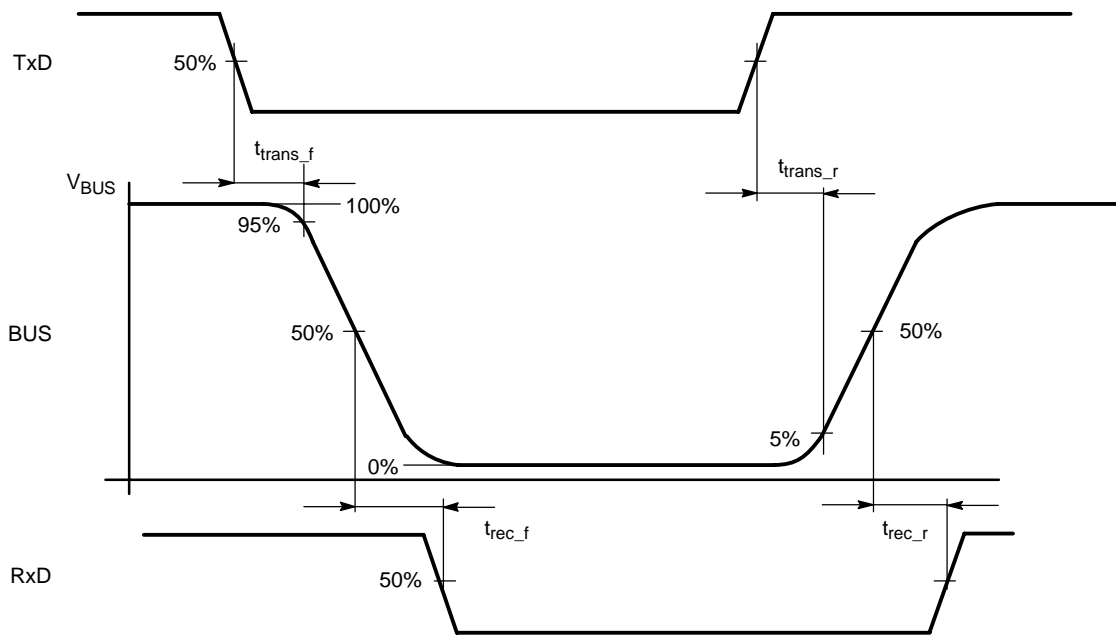

Figure 2. Input/Output Timing
7. See Figure 2 – Input/Output Timing.